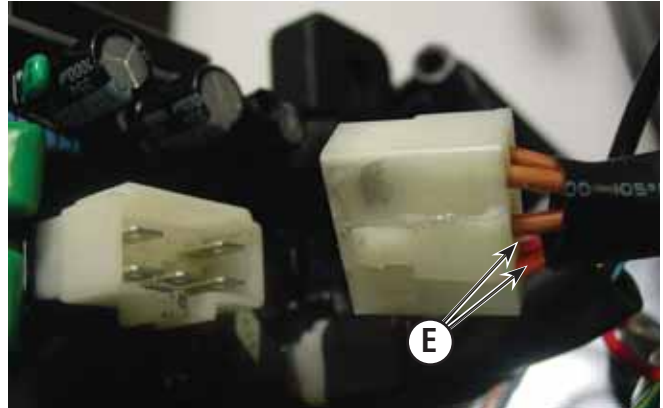

Figure 64
5. Then measure resistance across sub-windings (E, Figure 64).